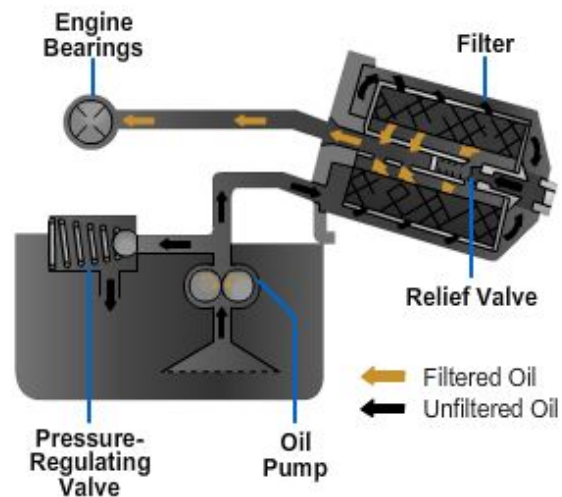

Figure 6-20 — Full flow oil system.
- The full-flow system is the most common (*Figure 6-20*). All oil in a full-flow system is circulated through the filter before it reaches the engine. When a full-flow system is used, it is necessary to incorporate a bypass valve in the oil filter to allow the oil to circulate through the system without passing through the element in the event that it becomes clogged. This prevents the oil supply to the engine from being cut off.